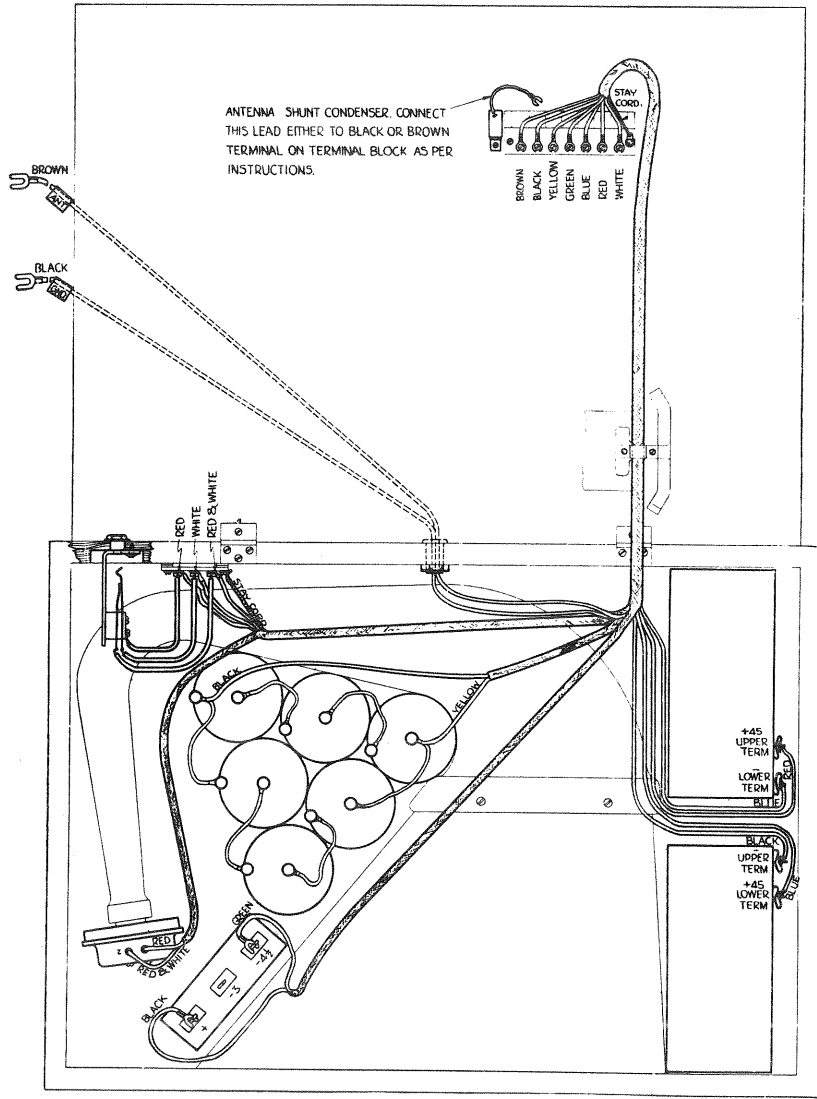

FIG. 3—CABLE CONNECTIONS OF RADIOLA VII-B
If an antenna of less than 40 ft. is used, the flexible lead on shunt condenser, Fig. 3, must be connected to the brown or antenna terminal on the terminal board of the Radiola VII-B. Should a longer antenna be used, this flexible lead should be connected to the black, or ground terminal on the terminal board, which throws the condenser out of circuit.
The "A" batteries must be placed in the cabinet with their terminals as shown in Fig. 3. Remove thumb screw and place the four special connectors on batteries as shown. This connects the batteries in three series groups, of two cells each in parallel. The yellow leads are connected to the center of positive terminal of the "A" battery and the black leads to the outside or negative terminal.
The method of connecting the "B" battery is clearly shown in Fig. 3. The leads are sufficiently long to permit making the connection outside the cabinet for convenience. The rear battery shown in Fig. 3 should be placed in the front of the cabinet first and pushed towards the rear, then the front battery shown in Fig. 3 can be lowered in its place as shown in Fig. 3.
1. Be sure that set is properly connected, as per diagram, Fig. 3.
To replace, lift battery unit out and unclip leads. The battery leads are long enough to permit the units to be lifted out of the cabinet, for their connection. **DON'T FORGET TO REMOVE TUBES FROM SOCKETS BEFORE REPLACING ANY BATTERIES.** Connect the new units exactly as shown in Fig. 3.